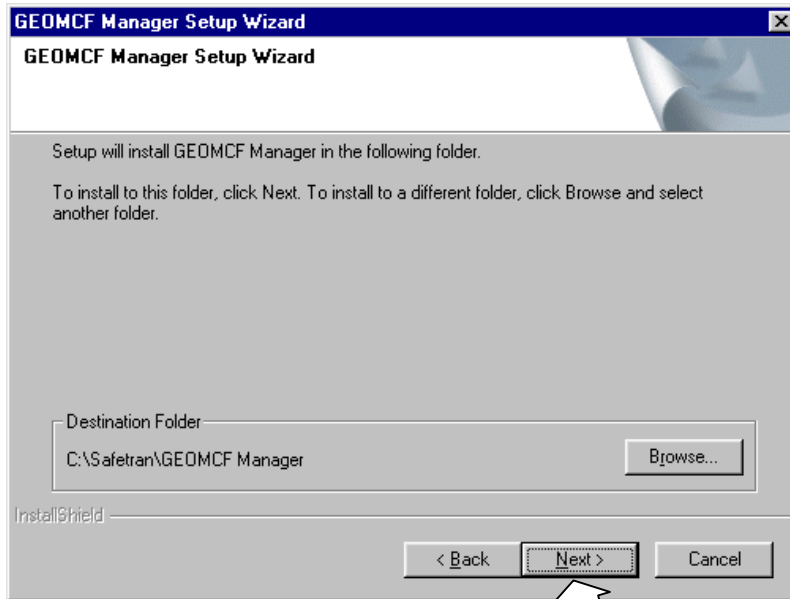

Figure 1-10
3. The **GEOMCF Manager Setup Wizard** displays the “Destination Folder” window (figure 1-10).